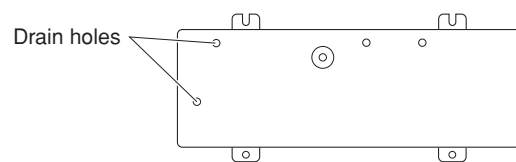

Fig. 5c
- provide a solid base (level concrete pad, concrete block, 4" x 1'4" (10 x 40 cm) or 6" x 1'4" (15 x 40 cm) beams or equal), a minimum of 4" (10 cm) or 6" (15 cm) above ground level to reduce humidity and protect the unit against possible water damage and decreased service life. (Figs. 5c and 5d or 5e)